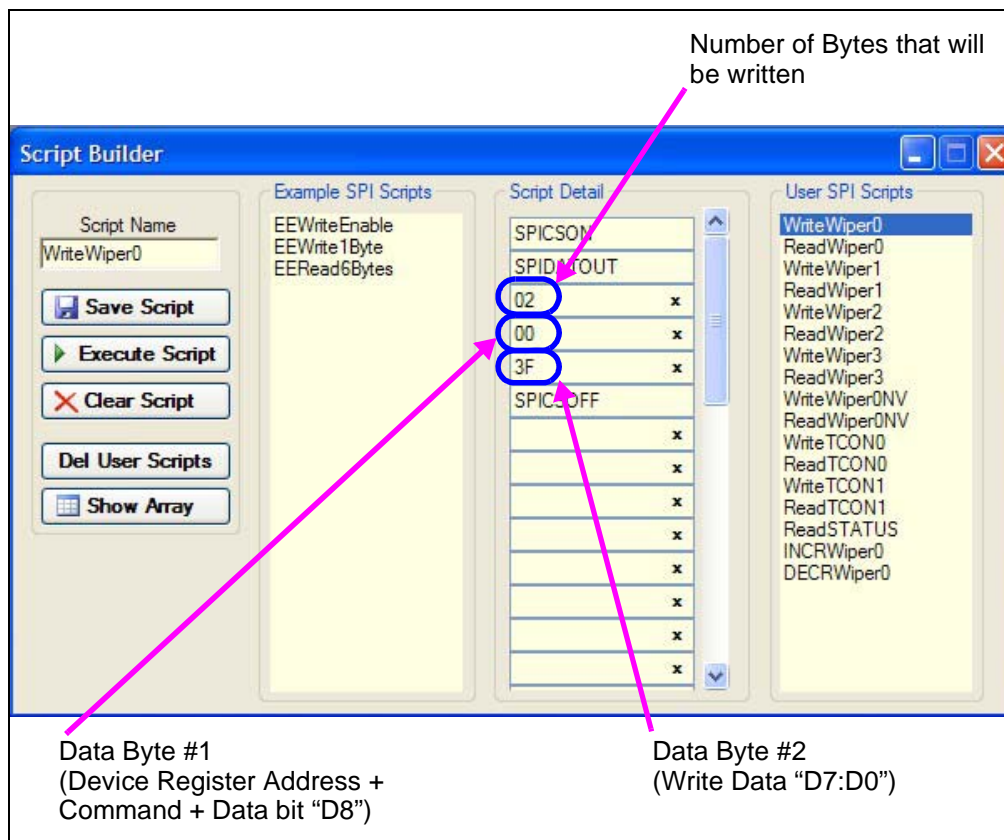

FIGURE 2-10: Example Write Script.
Figure 2-10 shows what the values mean in the Script Details. These values are hex numbers.
9. Double click on the “WriteWiper0” script in the “Example SPI Scripts” column. This loads the Script Detail column (see Figure 2-10).